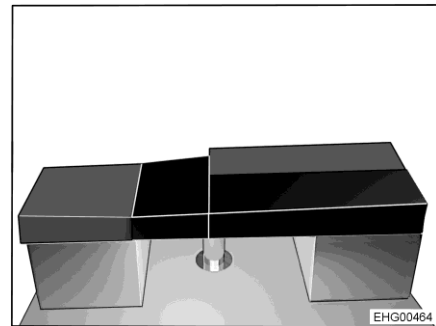

Fig. 167 After conversion
- Place rectangular additional cushion on the table (see Fig. 167).
- Place angled additional cushion on the L-shaped bed widening (see Fig. 167).